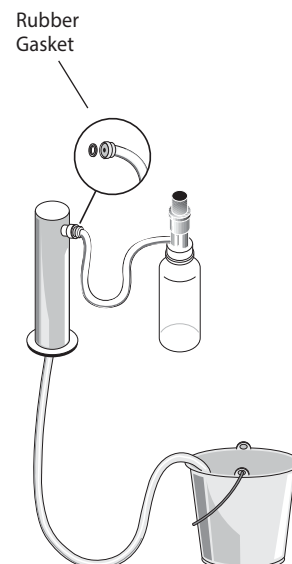

Fig. 2. Drain the beer from the line.
6. Thread the pump bottle hose to the beer column tap outlet and allow the beer line to drain in the bucket. See fig. 2.